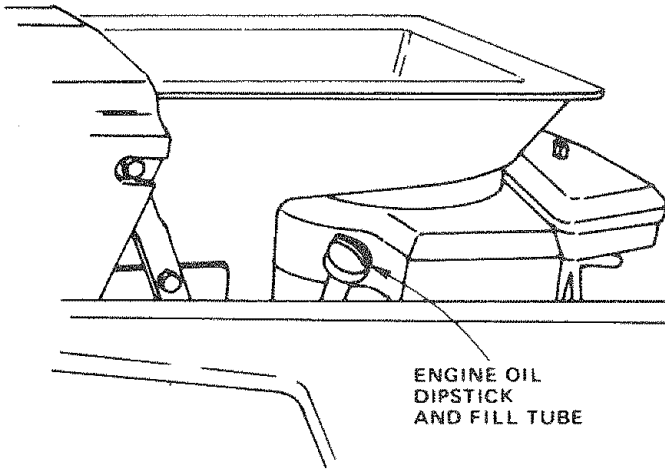

FIGURE 19
- f. Replace dipstick (fig. 19).
Several minutes after stopping engine, check engine oil level with tractor on level ground. Wipe dipstick (Fig. 19) clean, screw it down tight for a few seconds, remove and read oil level. If necessary, add oil until "FULL" mark is reached. (See chart above). NOTE: DO NOT OVERFILL.